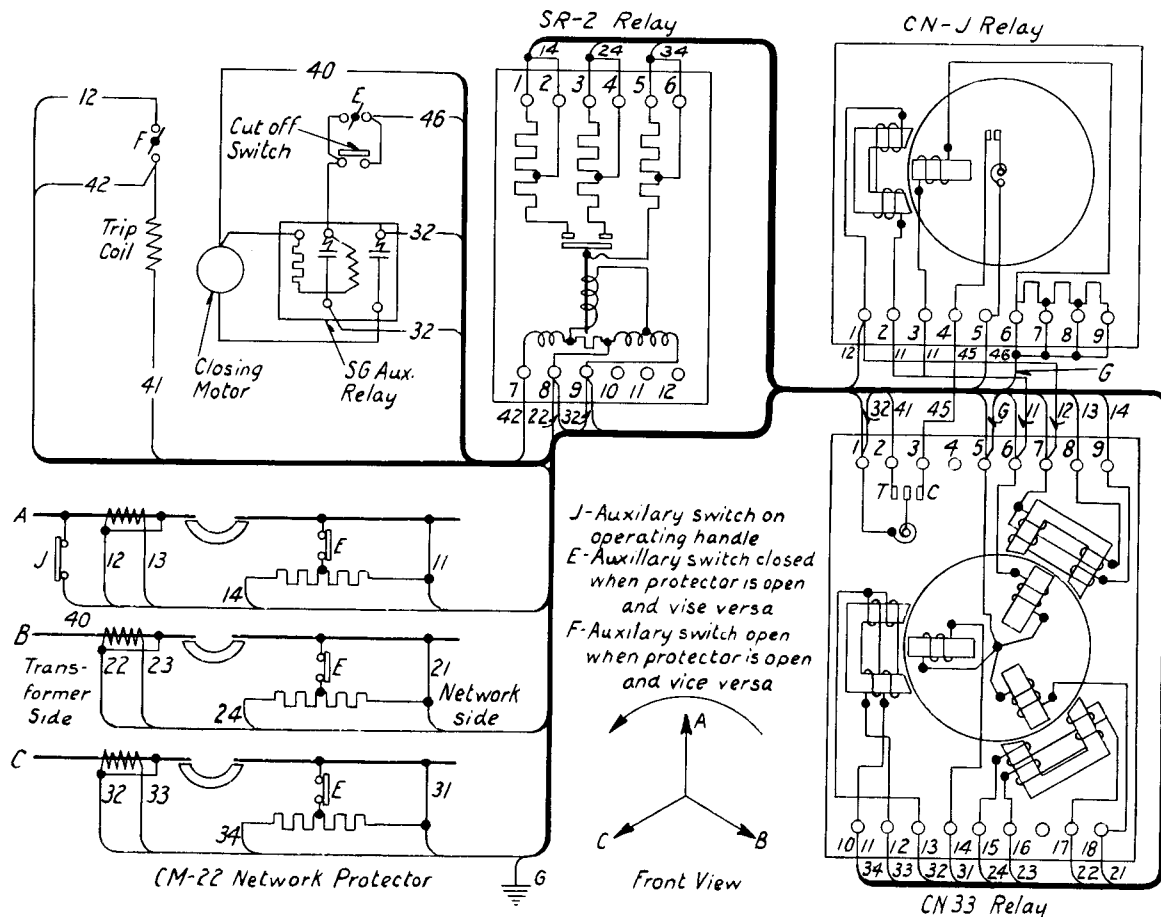

FIG. 4—SCHEMATIC WIRING DIAGRAM OF A NETWORK PROTECTOR CONTROLLED BY TYPE CN-33, TYPE CN-J, AND TYPE SR-2 NETWORK RELAYS.
3. The way in which the type SR-2 voltage restraining relay operates to render the type CN-33 relay and its associated network protector insensitive to small power reversals under normal system conditions and sensitive under short-circuit conditions can best be described in connection with Fig. 4. When the network protector is open the simultaneous closing of the type CN-J relay contacts and the closing contacts of the type CN-33 relay energizes the operating coil of the closing contactor or type SG relay. One set of the SG relay contacts shunts the contacts of the CN-J and CN-33 relays, thus sealing the SG relay in the energized position, and the other set of contacts completes the circuit of the closing motor. When the protector closes, its cut-off switch deenergizes the operating coil of the SG relay which drops out, thus deenergizing the closing motor and removing the shunt around the closing contacts of the CN-J and CN-33 relays. Two of the terminals of the positive sequence voltage filter in the SR-2 relay, namely,
7. The SR-2 relay is connected in the protector control circuits as shown in Fig. 4. As long as the relay terminals are fully screwed into their proper places, the SR-2 relay renders the protector insensitive to reversed currents according to the location of the terminal screws in the upper terminal block. The protector can be restored to continuously sensitive operation by simply removing the SR-2 relay from the protector, or by removing two of the three screws 7, 8 and 9. When using the type SR-2 relay it is essential that the protector be connected to the system with the phase
rotation as shown in Fig. 4. Phase "A" in this figure is the left hand pole when facing the protector.